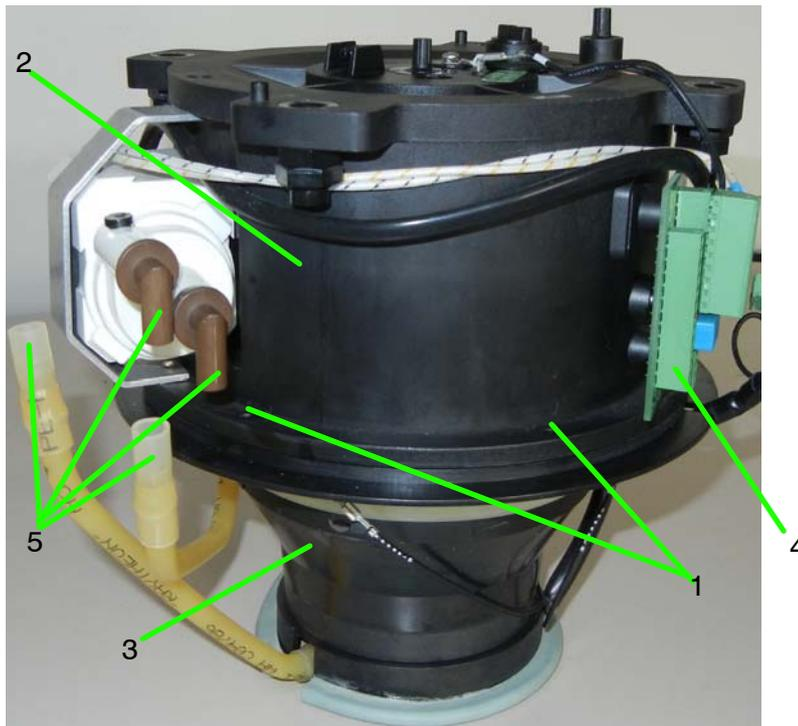
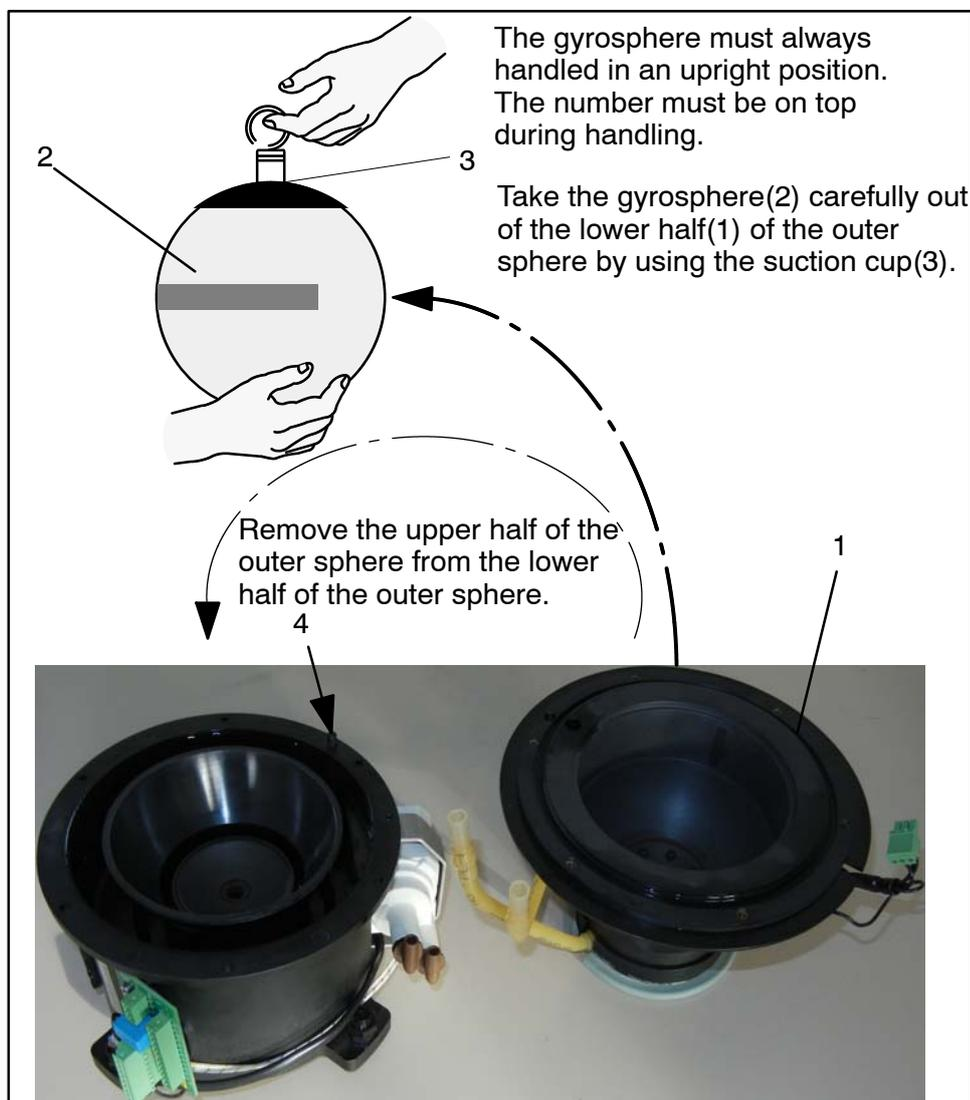

Figure 68: Outer sphere
Figure 69: Upper half and lower half of the outer sphere separated
- Remove the hose connections (Figure 68/5).
- Remove plug B3 (Figure 68/4).
Unscrew the 6 screws (Figure 68/1) that connect the upper and lower half of the outer sphere and separate the upper half from the lower half of the outer sphere (see also Figure 69).
- Remove the gasket (Figure 69/1) out of the slot of the lower half of the outer sphere (do not use the gasket again).